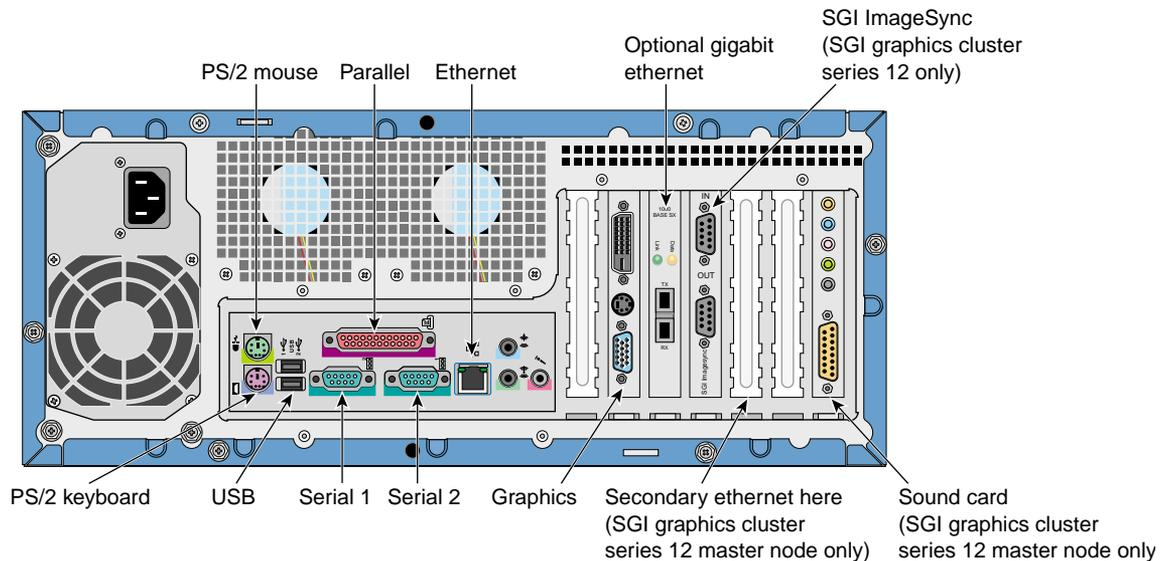

Figure 2 Rear Panel I/O Ports and Features
3. If the monitor, keyboard, and mouse included with the SGI Graphics Cluster are not already cabled to the master node, cable them; see Figure 2 for connectors.
5. Cable other monitors and other peripherals and options to which the system is to be connected; see Figure 2 for connectors on the node rear panel.